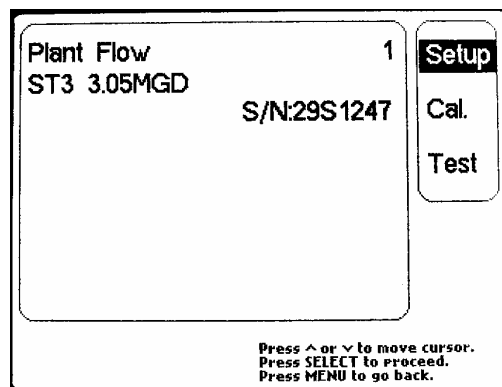

Figure 48 - Channel Info Screen for an ST3 channel
2. The CHANNEL INFO screen (Fig 48) should have the word SETUP highlighted on the upper right corner of the screen. Press SELECT.
2. The CHANNEL INFO screen (Fig 48) should have the word SETUP highlighted on the upper right corner of the screen. Press ↓ once to highlight the word CAL, then press SELECT.